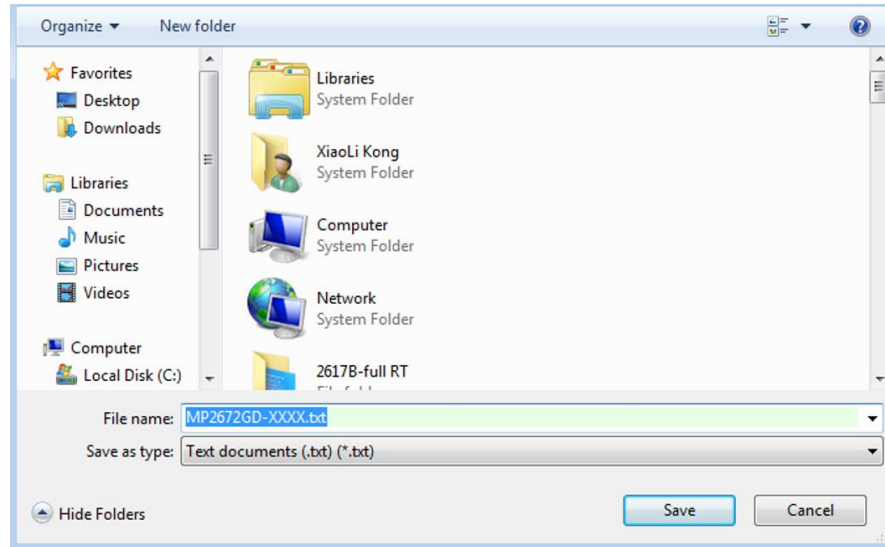

Figure 11: Exporting a File
6. Find a location for the exported file, and click “Save.” The customized configurations will be saved in a .txt file (see Figure 11).